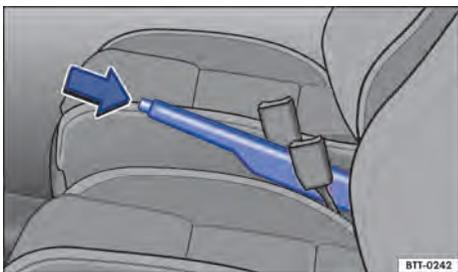

Fig. 110 Between front seats: handbrake lever.
- Press the interlock button and pull the handbrake lever upwards → Fig. 110 (arrow).
- Pull the handbrake lever slightly upwards and press the interlock button → Fig. 110 (arrow).